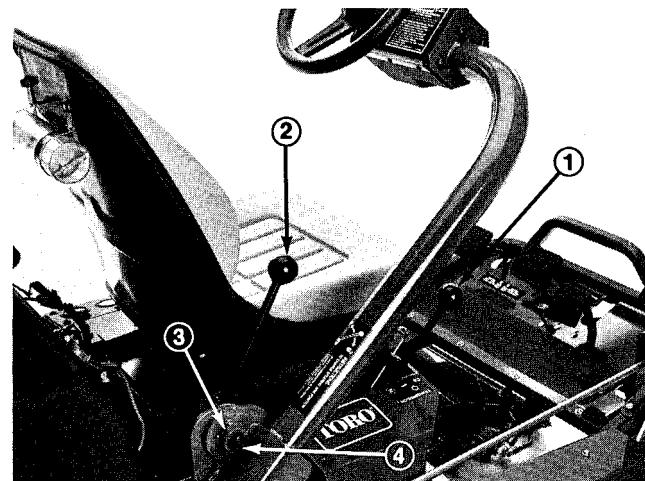

Figure 17
SHIFT SELECTOR (Fig. 17) – Located on the top of the right hand panel. Provides two (2) traction selections, plus a "NEUTRAL" position. It is permissible to shift from one selection to another while the Greensmaster 3100 is in motion. No damage will result.
STEERING ARM LOCKING LEVER (Fig.17) – Rotate lever rearward to loosen adjustment, raise or lower steering arm for operator comfort, then, forward to tighten adjustment.